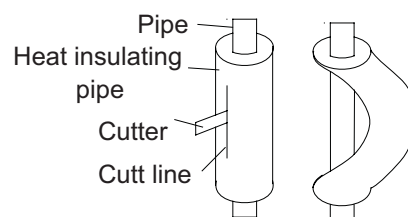

Figure 3-2-5
- (2). Do not bend the pipes in an angle more than 90°.
- (3). When pipes are repeatedly bent or stretched, the material will harden, making it difficult to bend or stretch them any more. Do not bend or stretch the pipes more than three times.
- (4). When bending the pipe, do not bend it as is. The pipe will be collapsed. In this case, cut the heat insulating pipe with a sharp cutter as shown in Figure 3-2-5, and bend it after exposing the pipe. After bending the pipe as you want, be sure to put the heat insulating pipe back on the pipe, and secure it with tape.